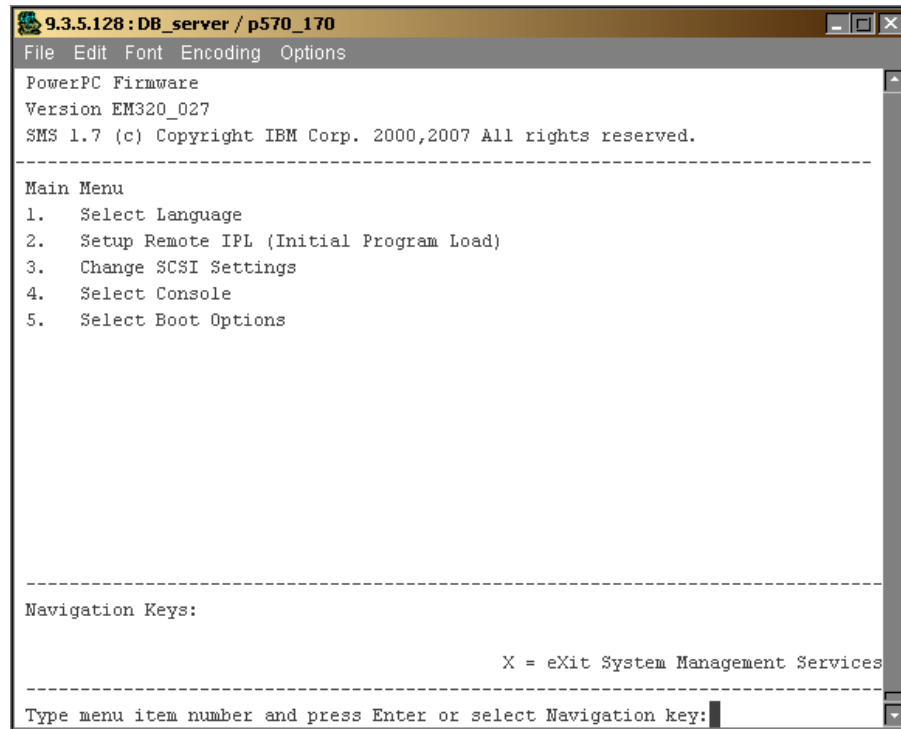

Figure 13-17 The SMS menu
3. Set up the network boot information by choosing option **2, Setup Remote IPL** (see Figure 13-17).